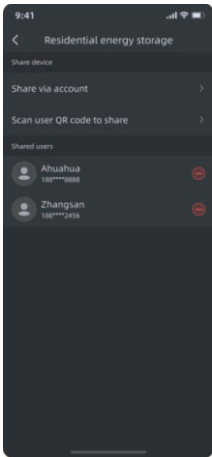

Figure 1
- 1)Figure 1: Supports sharing devices through accounts or QR codes;Display the shared users, click "**Delete**" to open a confirmation pop-up for cancelling the sharing.